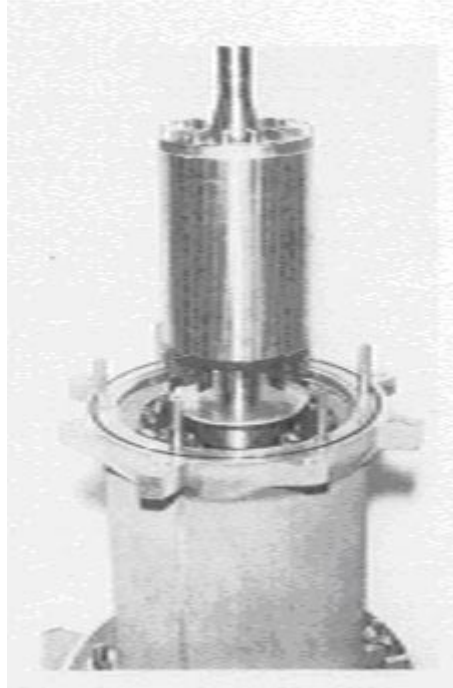

Fig 6
- Slide the complete rotor assembly into the casing cpl. **Fig 6** .